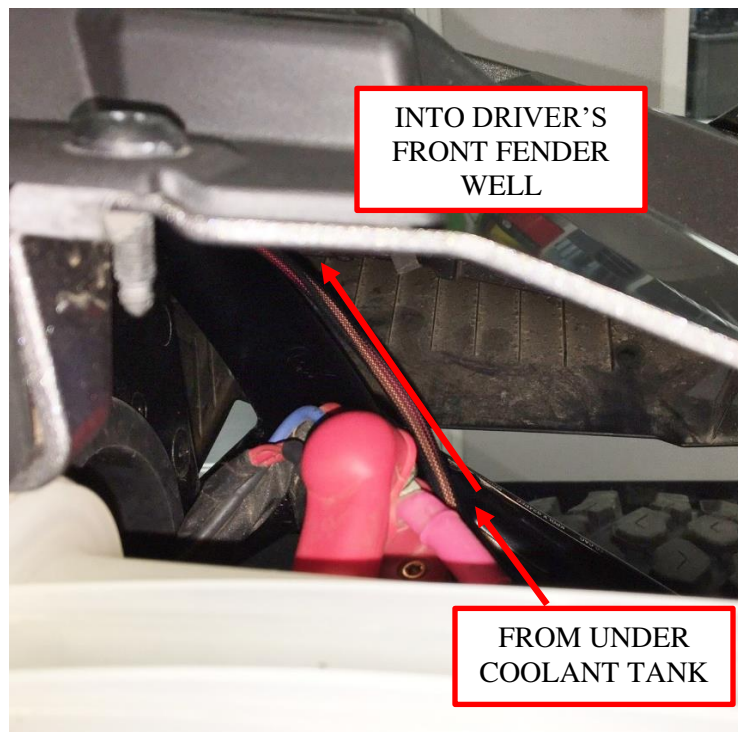
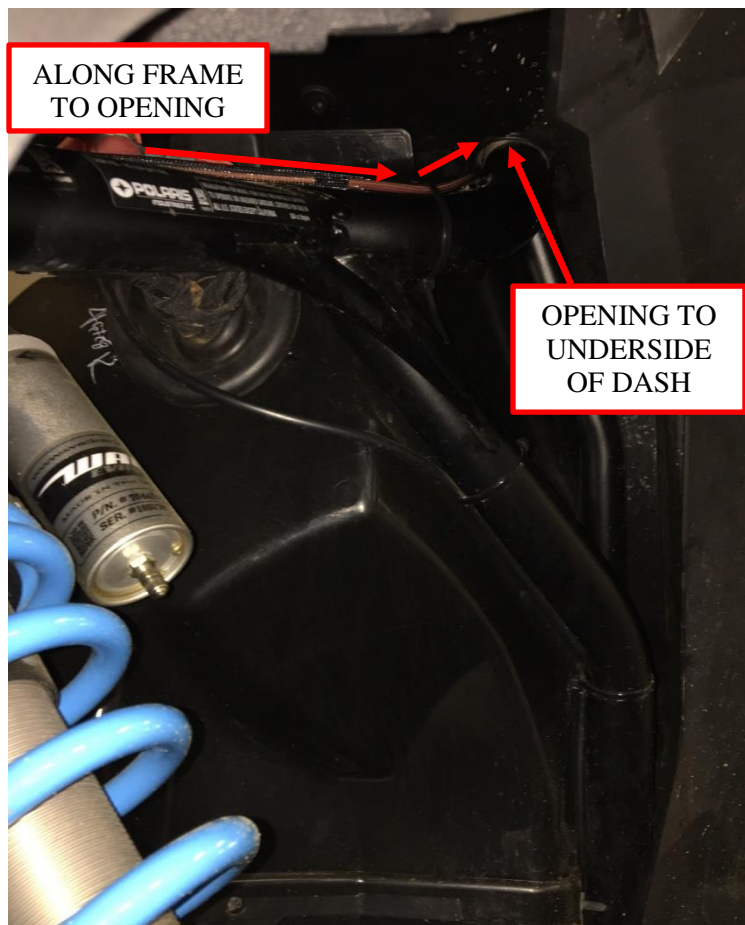

Figure 10: Chassis harness routing along frame into fender well.
Figure 11: Chassis harness routing in driver's front fender well.
10. Route the mating connector from under the coolant tank along the frame to the opening in the driver side front fender well. See Figure 10 and Figure 11.